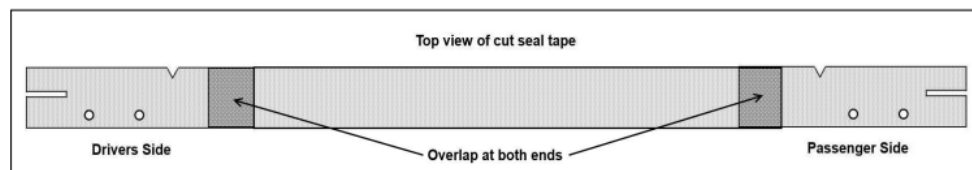

Figure 18
- Required tools: Drill, 4mm Bit, Rivet Gun Use the remainder of the tape to cover the remaining gap between the center section of the headboard and the cabin end of the tub. Overlap the remaining tape evenly at both ends (approx. 30 - 40mm). **Refer Figure 18**.